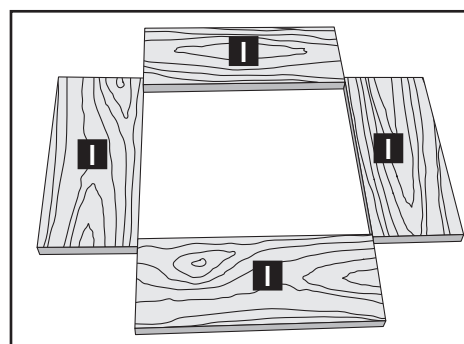

Fig. 17
- STEP 1: Lay out the workpieces face down and label the inside faces with an "I" (Fig. 17). Label the other side "O" for "outside surface."